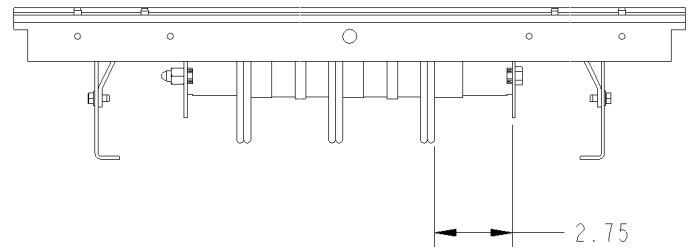

Figure 3. Top view of a bolt-on interior.
- *Bolt-on and single bus of plug-in assemblies, switchboard panels, and powerpanel.* Before installing, locate the side of the panel interior for which the dimension from the nearest vertical bus face to the inner face of the bus support rail is 2.75 inches, as indicated in Figure 3. The cable terminals will be mounted on this side of the bus.